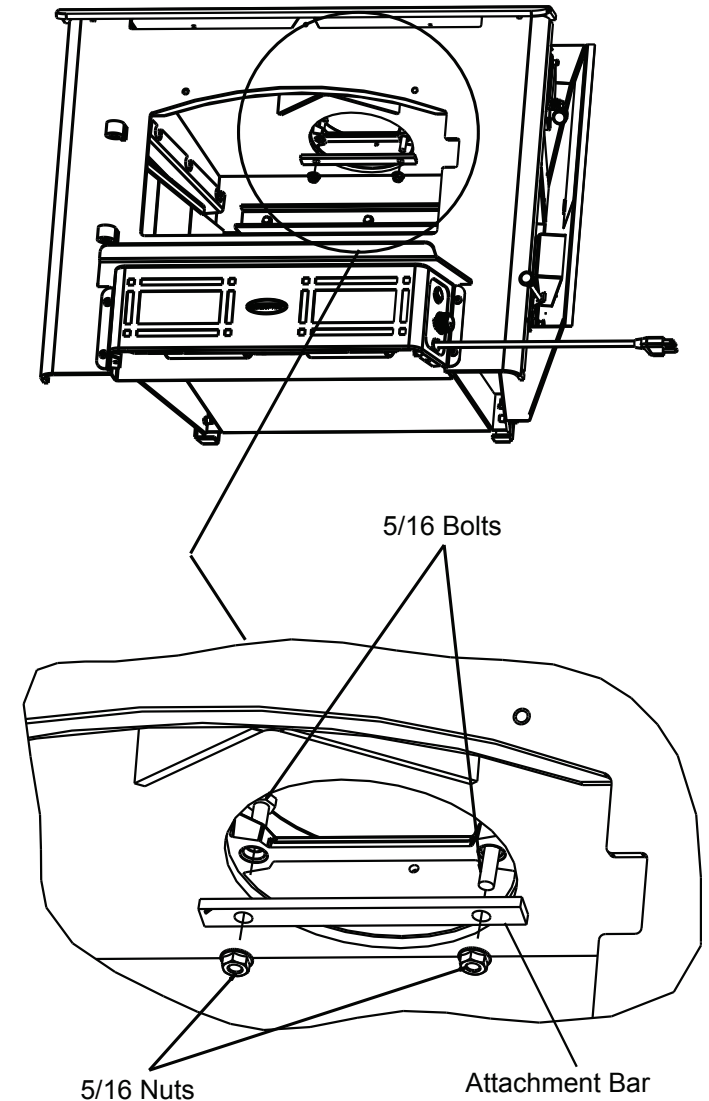

Figure 18.3
1. Once you have the appliance in place and secured, reach up through the flue opening and grab the attachment bar and pull down inside flue opening (**Figure 18.3**).